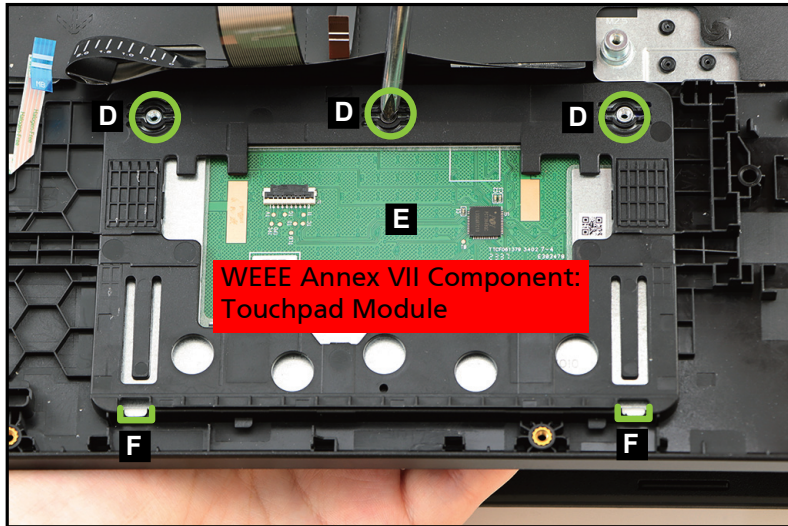

Figure 1-44. Touchpad Module Removal
6. Using the screwdriver, push the guide pins (D) firmly to release it from the top assembly (Figure 1-44).
7. Slide the touchpad module (E) slightly to disengage it from the bottom latches (F), and then remove the touchpad module from the top assembly (Figure 1-44).